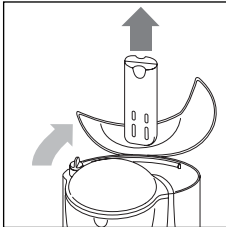

fig. 1
- Lift the water tank lid, remove the chlorine filter holder from its housing by lifting it upwards (Fig. 1).